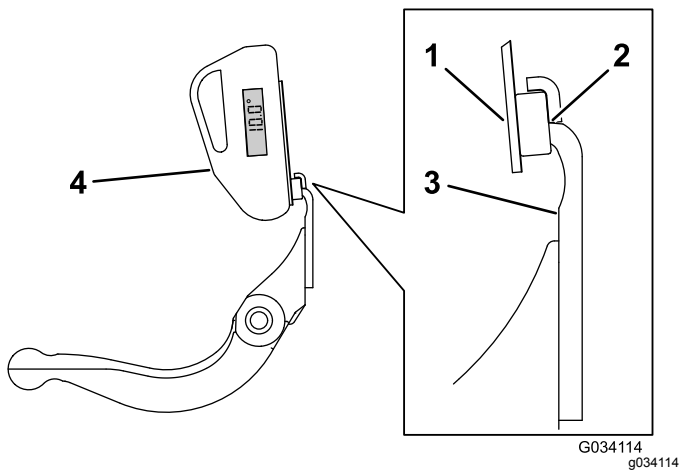

Figure 29
3. Place the angle-indicator mount on the edge of the bedknife so that the edge of the magnet is mated with the edge of the bedknife (Figure 29).
4. Place the angle indicator on the mount as shown in Figure 29.